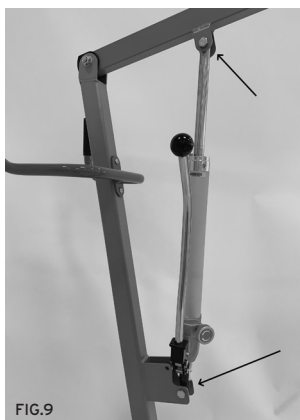

FIG.9
1. Place the hydraulic actuator as in the picture, blocking well its upper and lower part by auto-blocking screws and bolts. (Fig.9)